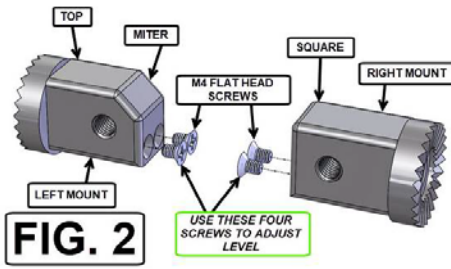

FIG. 2
3. USING FIG. 2 FOR REFERENCE INSTALL 2 OF THE FLAT HEAD SCREWS IN THE LEFT MOUNT. THREAD THEM IN ALL THE WAY AT THIS POINT.